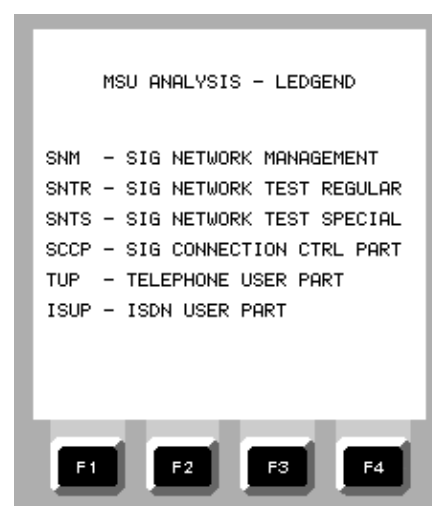

Figure 2-138. SU ANALYSIS - LEGEND
5. Press F4 (LEGEND) to view the SU ANALYSIS - LEGEND display (Figure 2-138)